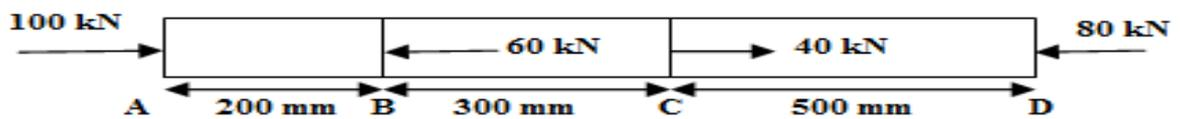

Figure 5(e)
- A member ABCD of uniform diameter 200mm is loaded as shown in figure 5(e), find the net change in length if  $E=200\text{GN/m}^2$ .